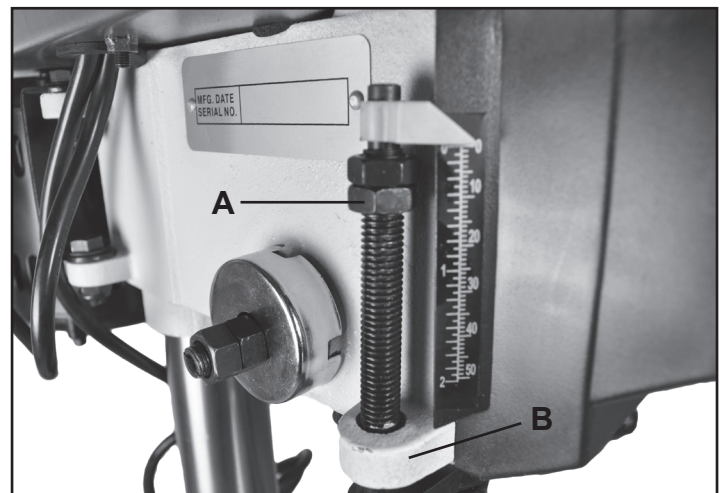

FIG. 7
7. **DEPTH STOP:** The depth stop and scale are found on the left side of the switch box. To adjust, lower the drill chuck until the pointer shows your desired depth on the scale. Loosen the lower nut on the threaded shaft (FIG. 7, A) until it bottoms out on the head casting (B). Tighten upper nut against the lower nut to retain the adjustment.